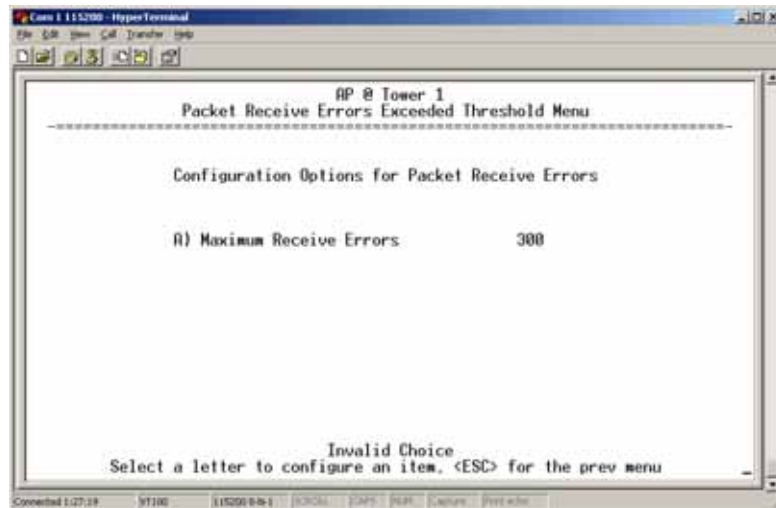

Figure 3-76. Packet Receive Errors Exceeded Threshold Menu
- **Packet Receive Errors exceeded threshold**—This setting determines whether or not a switchover occurs when the number of Packet Receive errors exceeds the number set in Figure 3-76 on Page 105. [enabled, disabled; disabled]
- **Packet Receive Errors Exceeded Threshold**—This selection opens a submenu (Figure 3-76 on Page 105) where you can view or change the maximum allowable number of receive errors.